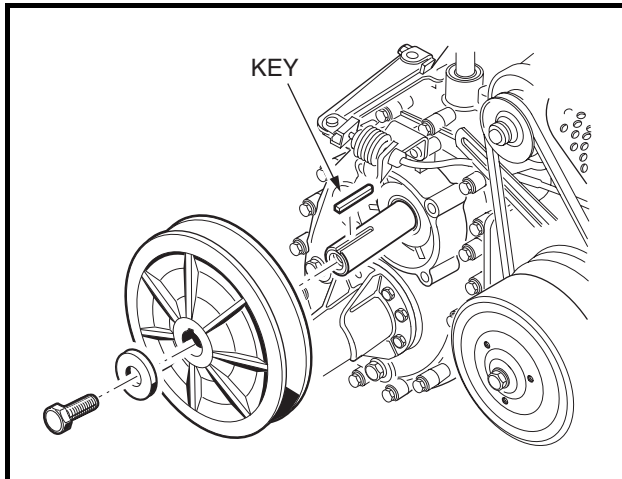

Figure 16-38 Driven Clutch
9. Install the key onto the input shaft (**Figure 16-38, Page 16-17**).
10. Position the driven clutch on the transaxle input shaft and install the washer (yellow side facing out) and mounting bolt. Tighten the mounting bolt to 14 ft-lb (19.0 N·m) (**Figure 16-38, Page 16-17**).